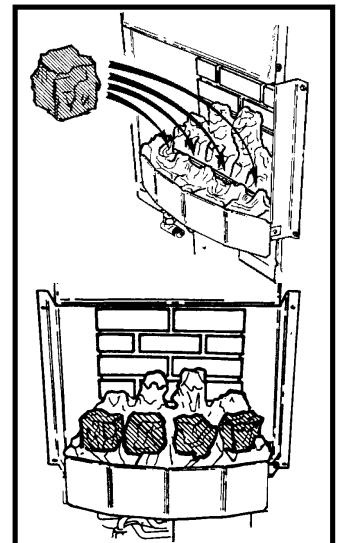

Fig. 36 Front row of coals
**4.1** Select the two smallest coals and put them aside until all the other coals are installed. Place four of the medium size coals in the four valleys of the front coal. Place the left side coal so that the pilot flame will be visible. (See figure 36).